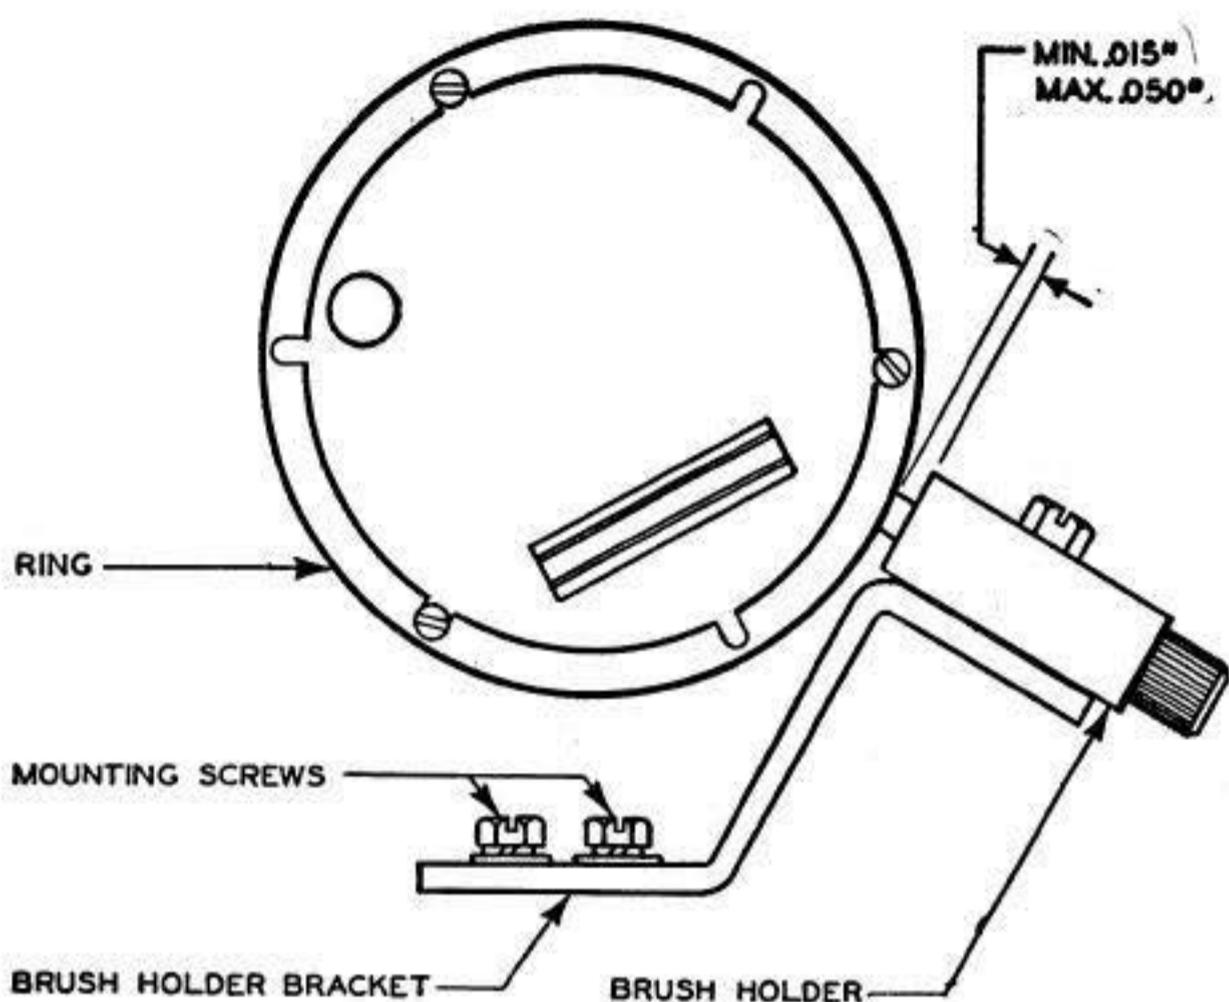

Fig. 14
4.19 **Brush Holder:** There should be min .015", max .050" clearance between the brush holder and the rings through one complete revolution of the governor. **Fig. 14**